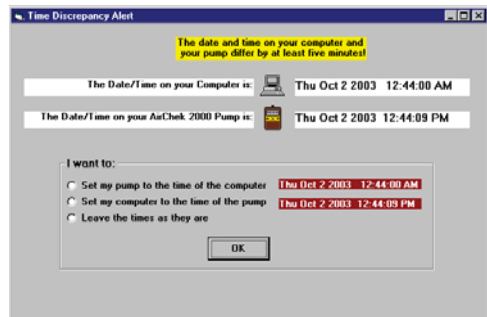

Figure 2B. Time Discrepancy Alert Window
7. If the date and time settings on the PC and pump differ by more than 5 minutes, a Time Discrepancy Alert window will display (Figure 2B). Reconcile the date and time and click OK.